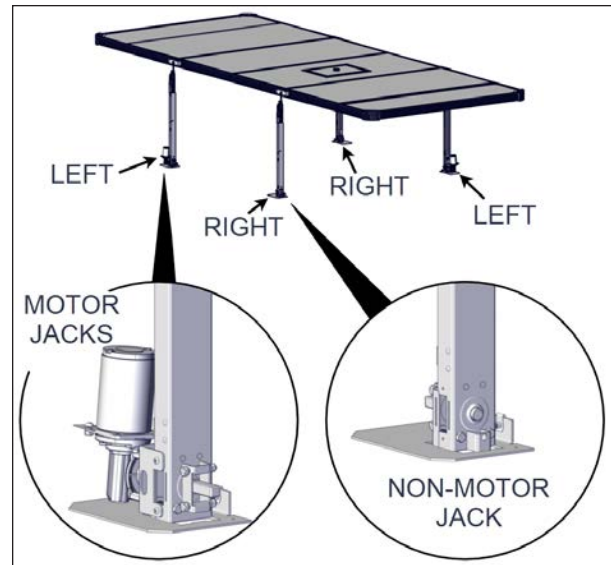

FIGURE 76: JACK POSITIONS
1. Position the jacks in their locations. Motorized jacks should always be on the left side when looking at the spa see Figure 76.